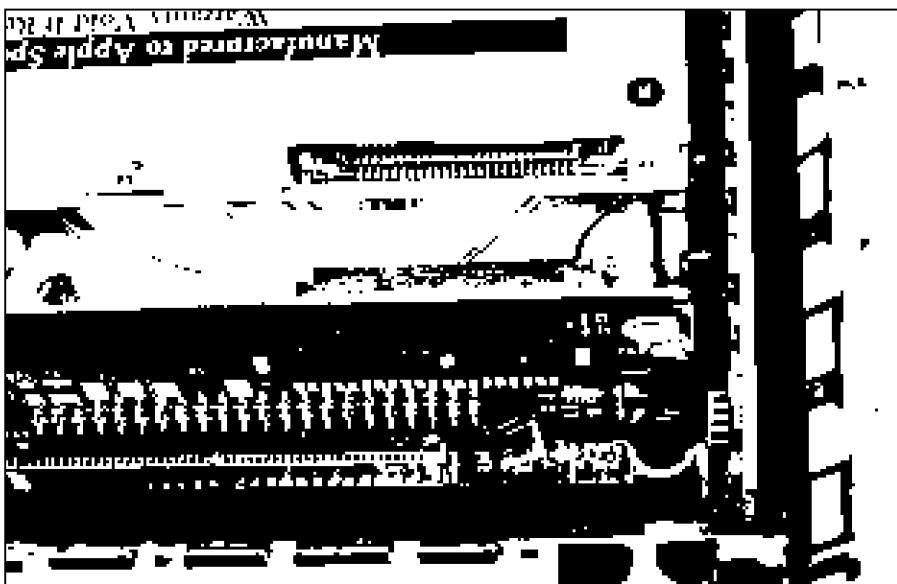

Figure 8-8:
11. Slide the optical drive forward, as shown in Figure 8-8.
1. Slide the drive in place, from the front to the back (refer to Figure 8-8).